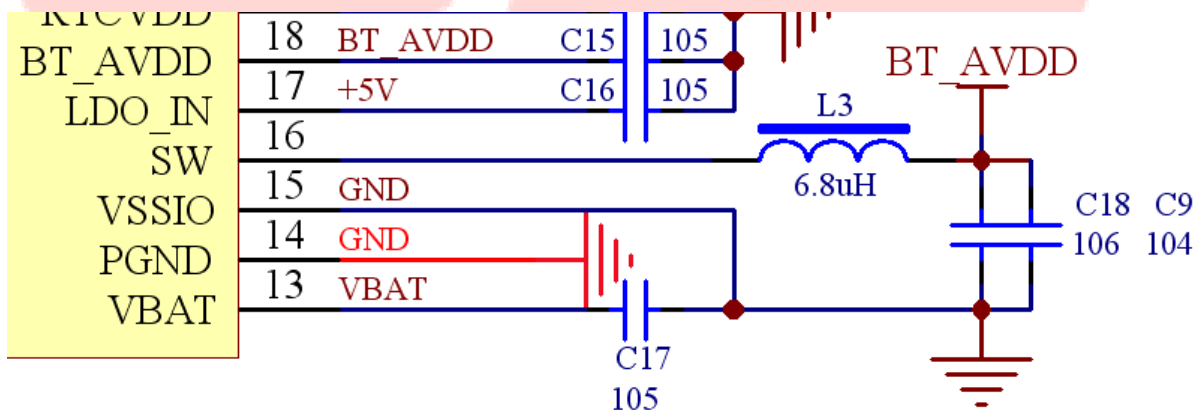

Figure 1 DC-DC Switching Power Supply Circuit
As shown in Figure 1, the DC-DC switching power supply consists of SW, PGND, BT\_AVDD, VBAT, and L3, C18, C9, C15 (red part); during layout, L3/C18/C9/C15 should be placed as close as possible to the corresponding pins; the routing of L3's BT\_AVDD must first go through the C18 (106) capacitor before entering the main control; L3 should be kept as far away as possible from parts that are easily interfered with (such as RF, DAC); please choose a wire-wound inductor or power multilayer inductor for L3, with a rated current greater than 120mA and an internal resistance of less than 0.5R.